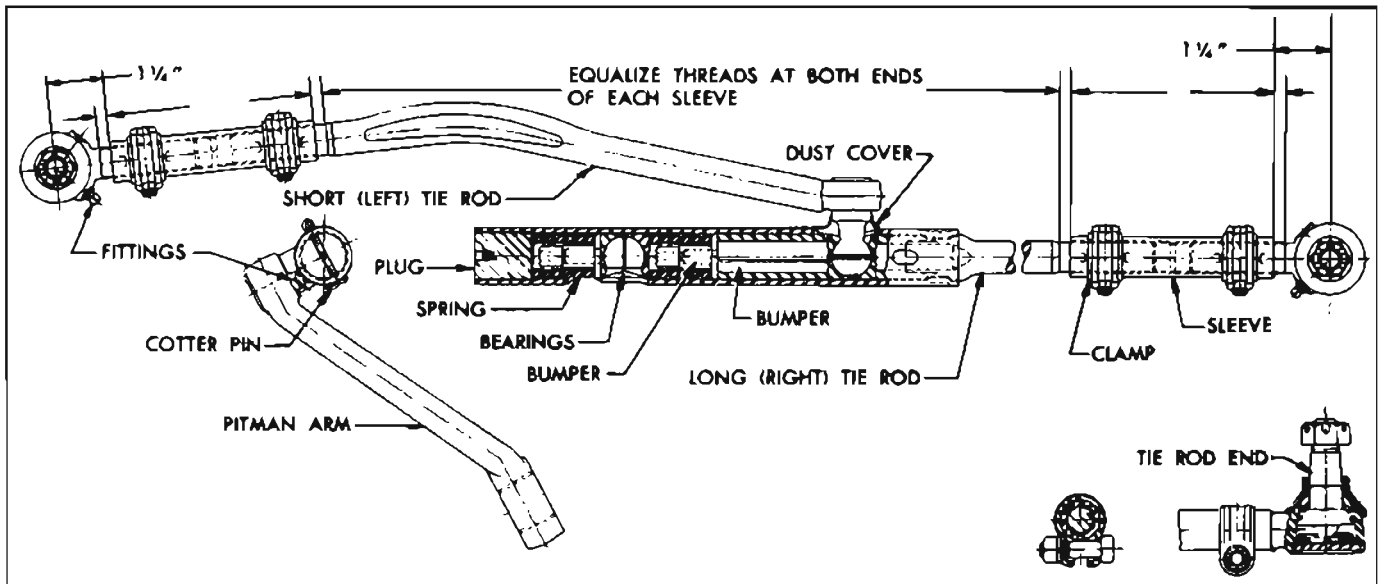

Fig. 7-4—Tie Rods and Tie Rod Ends—Series 40-44-50
Heavy coil springs on each side of the pitman arm ball stud bearings and a threaded plug in the end of tie rod provide proper pressure between both sets of bearings and the ball studs. Flanged bumpers extending through both springs act as spring guides, permit a restricted movement of pitman arm ball stud and bearings as the springs absorb road shocks, and prevent the bearings from spreading and releasing the ball stud in the event of spring breakage. The spring tension and the clearances at ends of bumpers are adjusted by the threaded tie rod plug. See figure 7-4.
On *Series 40-44-50*, the tie rods are connected to the tie rod ends by internally threaded sleeves which provide for toe-in adjustment. The sleeves are slotted and provided with clamps at each end to lock them in place. See figure 7-4.
The tie rod end, which connects each tie rod to a steering arm, is a spring-load ball stud and socket unit assembly. A rubber dust seal fits over the stud where it emerges from the socket, to provide protection against entrance of dirt and water. See figure 7-4.
1. Disconnect steering tie rod from pitman arm by unscrewing tie rod plug until bearings will release the ball stud. See figure 7-4. Check tightness of pitman arm nut with 18" wrench.
ball stud. See figure 7-4. Turn the tie rod plug up solid then back off two turns and install cotter pin.